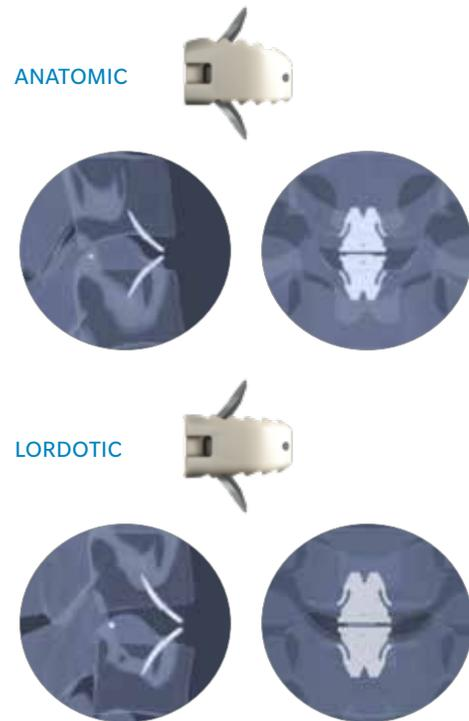

Figure 19
- Confirm proper placement with radiographic imaging (Figure 19).